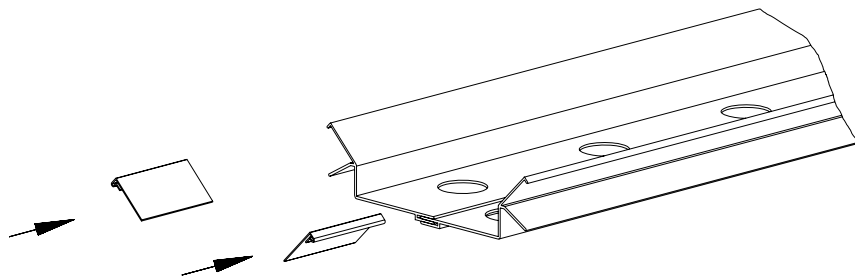

Figure 11
- I) Locate the pad support connectors and slip the pad support connectors on all pad supports except the first pair as shown in Figure 11 and Figure 12.